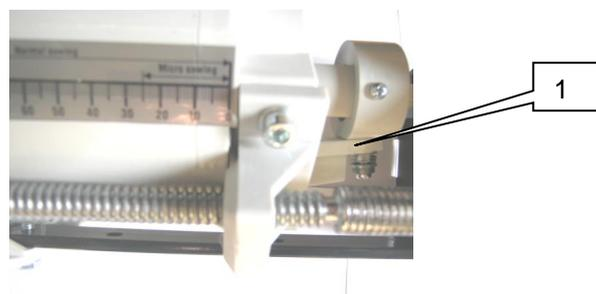

Fig. 12. 1- The resistance of the seed wheel
- set the resistance in the hex shaft cut-out (see Fig. 12) – it is only possible with the metering roller completely closed;